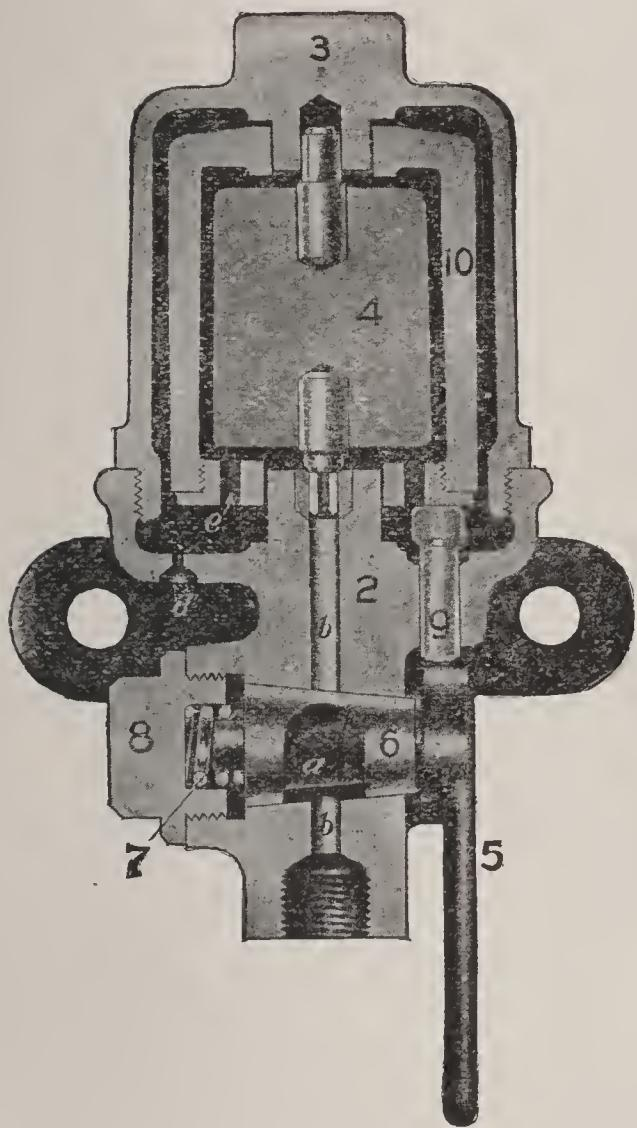
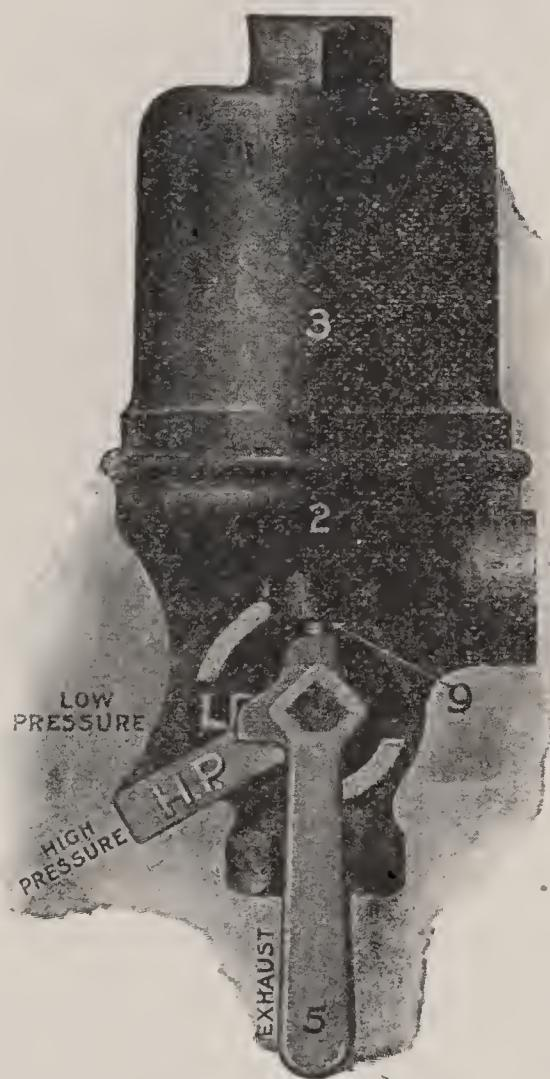

Fig. 20.
Fig. 21.
**Operation.** This new retaining valve is very similar to the standard type in general design and location, but is modified as indicated in Figs. 20 and 21. The main difference consists in the addition of a cylindrical weight 10, which surrounds the usual weight, and is lifted by it whenever valve handle 5 is manipulated to retain thirty pounds. When handle 5 is placed in the horizontal position one of two eccentric lugs on it raises pin 9 and also outer weight 10, the latter to the top of its movement. During such time inner weight 4 alone retains the pressure.
If the handle is placed in the intermediate position marked "high pressure" (Fig. 21) neither eccentric lug nor handle 5 touches lifting pin 9, and consequently outside weight 10 rests upon the top of inner weight 4 and the air pressure must raise both weights before it can escape to the atmosphere. When the handle is placed vertically as shown in Fig. 20, the air passes directly to the atmosphere, thus cutting out the retaining valve, while at the same time the other eccentric lug on the handle raises the lifting pin and outside weight so that the small weight alone rests on the valve-seat.